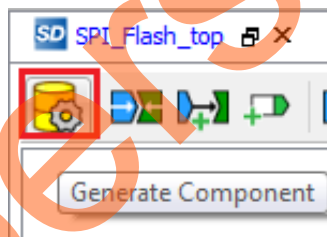

Figure 14 • Generate Component
2. From the **SPI_Flash_top** tab, click **Generate Component**, as shown in Figure 14.